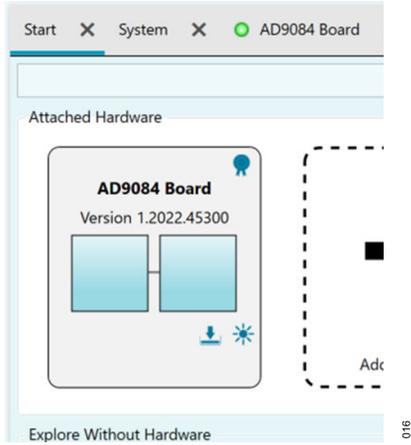
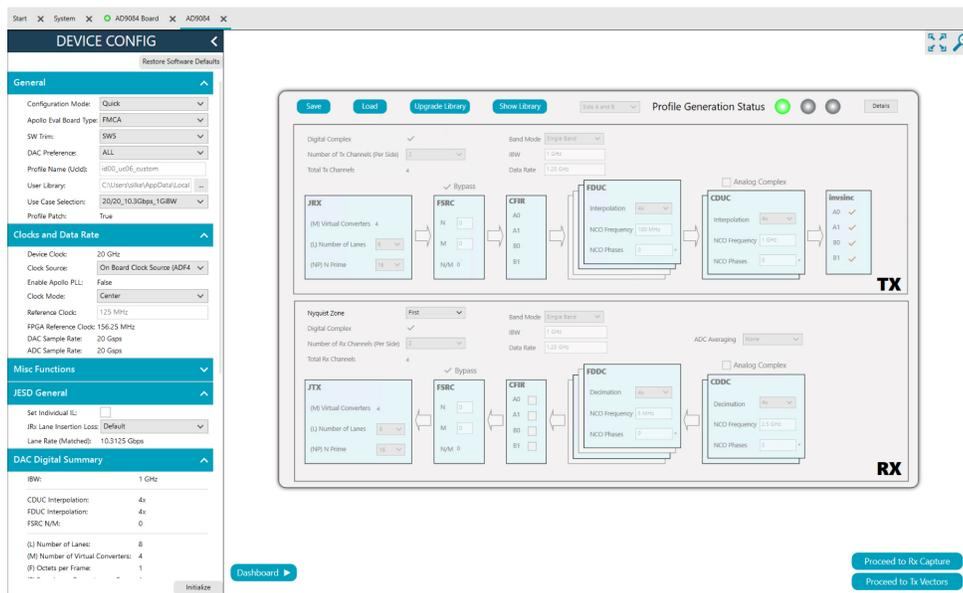

Figure 17. Opening AD9084 Board Plug-in in the ACE Software
Figure 20. AD9084 Configuration and Profile Generation Window
- The device clock frequency and FPGA reference clock frequency are use case specific and are specified in the **ACE DEVICE CONFIG** window (see Figure 20). Frequencies can be adjusted after a use case is selected.
- After several seconds, possibly 10 seconds or so, the RPC server completes initialization, and the plug-in appears in the **Attached Hardware** section within the **ACE Software**. Open the **AD9084 Board** plug-in from within the **Attached Hardware** section (see Figure 17).
- Double-clicking on the **AD9084 Board** plug-in icon in Figure 17 opens the **AD9084 Configuration and Profile Generation** window in the ACE Software (see Figure 20).
13. In **Quick** mode, the only parameter that can be selected and/or changed in the block diagram view in Figure 20 is the **ADC Nyquist Zone (First or Second)** pull-down menu. This choice informs the **DEVICE CONFIG Profile Generator** regarding which Nyquist zone the signals for the target application reside in.